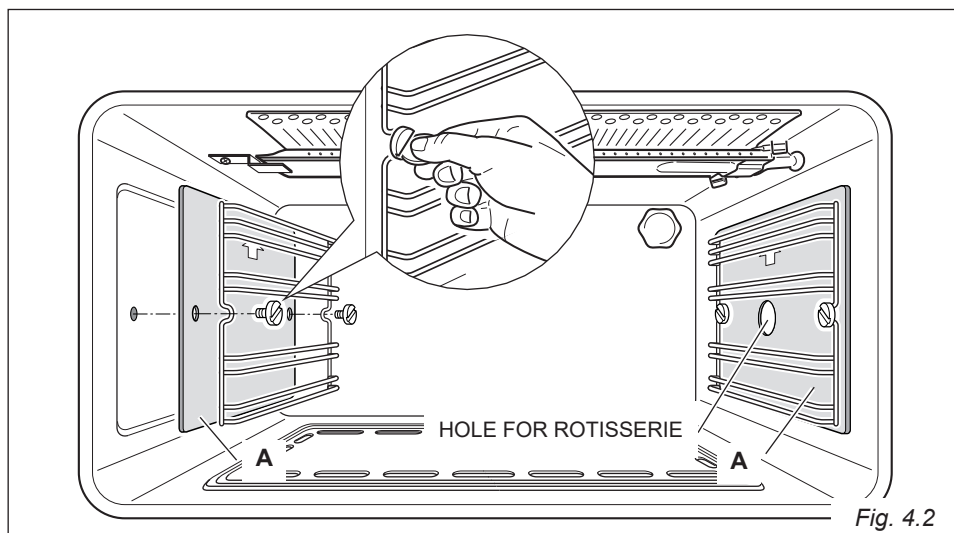

Fig. 4.2
- Assemble the wire racks to the oven walls using the 2 screws (fig. 4.2).
In the models with catalytic panels supplied, interpose the catalytic panels “A” with the arrow up (fig. 4.2). The catalytic panel with the hole for the rotisserie must be positioned on the right oven wall. **DO NOT INTERPOSE THE CATALYTIC PANEL WITHOUT THE HOLE ON THE RIGHT OVEN WALL.**
- Screw the side racks onto the oven walls (and the catalytic liners if supplied - fig. 4.2).